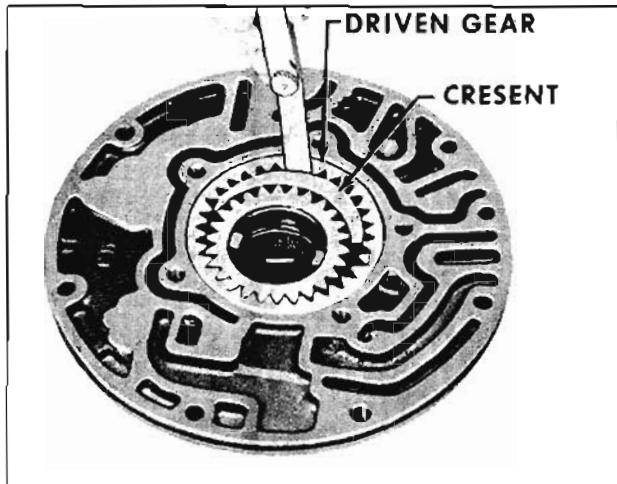

Fig. 6-334 Checking Clearance gear and pump body. The clearance allowed is .004" to .006". (Fig. 6-333)
- b. Check clearance between oil pump driven gear and crescent. The clearance allowed is .005" to .010". (Fig. 6-334)